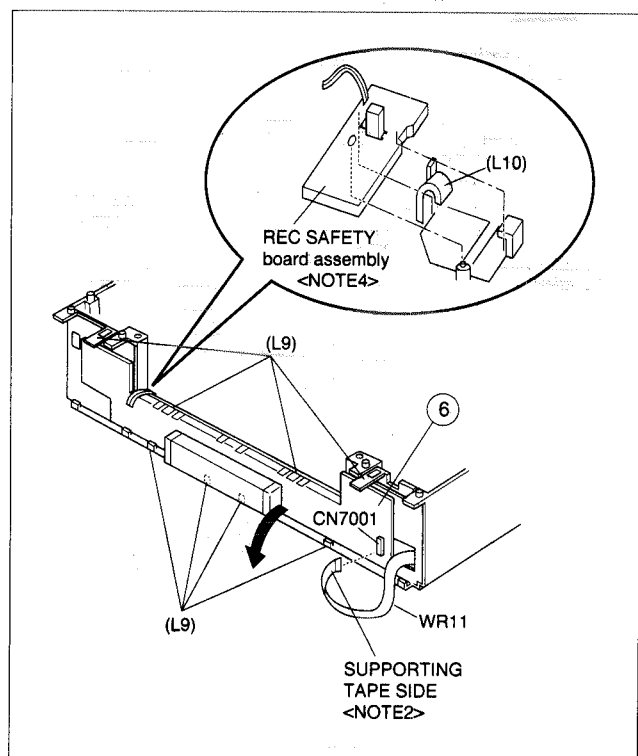

Fig. D6-2 [HR-S8600EU]
- (7) Remove the Switch/Display board assembly and REC safety board assembly. (Refer to page 1-4 of 1.3 DISASSEMBLY/ASSEMBLY METHOD. Take care not to pull the flat wire (Fig. D6-2) from CN7001.)